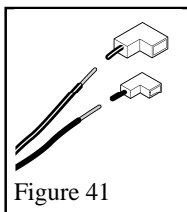

Figure 41
2. Cut off the "L" terminals from the switch wires **on the remote control receiver** and remove insulation from approximately ¼" at ends of wires. See figure 41.